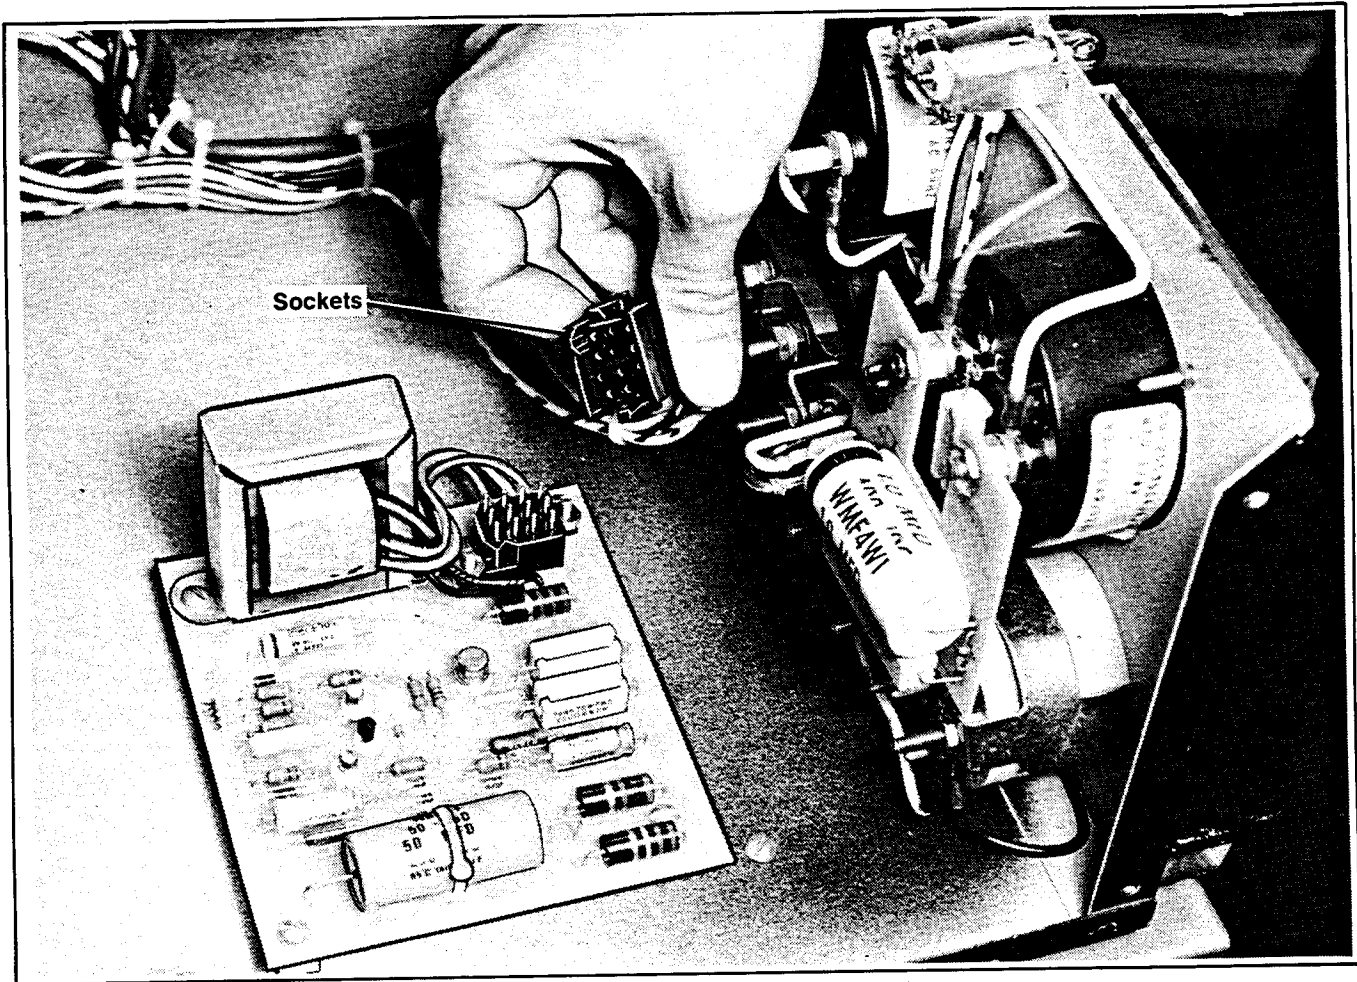

Figure 4-14. Harness Plugs
- Stop set and remove harness plugs from LED board and voltage regulator board. Check wiring between sockets 3B and 6, 5B and 9 (includes P5 connector at rear of upper cabinet) for short, grounded or open circuit. See Figure 4-14.